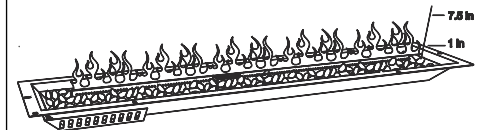

Figure 3
7. Adjust the flame to the desired height with the gas control knob. Visually check the burner flames as pictured below (Figure 3).